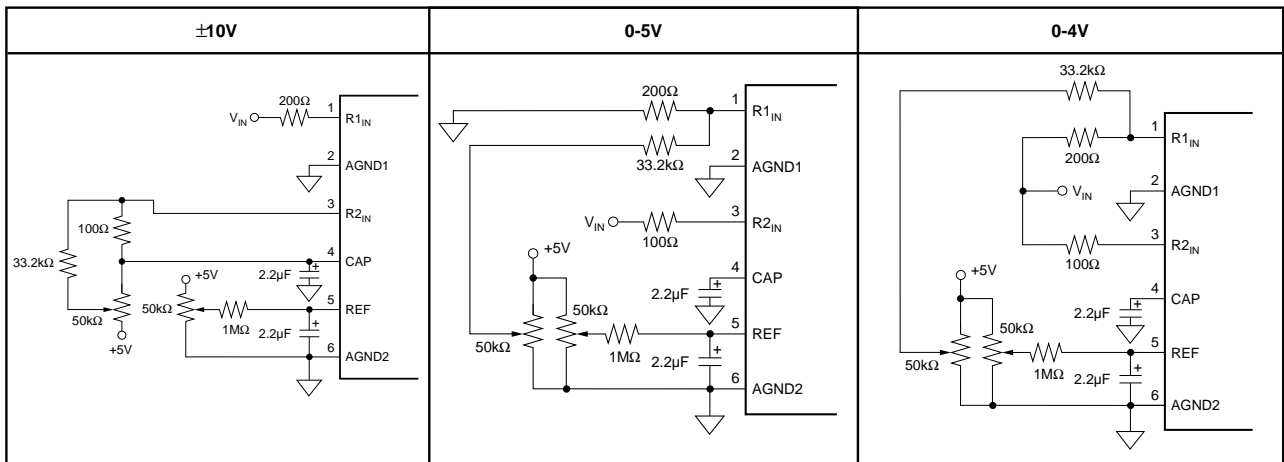
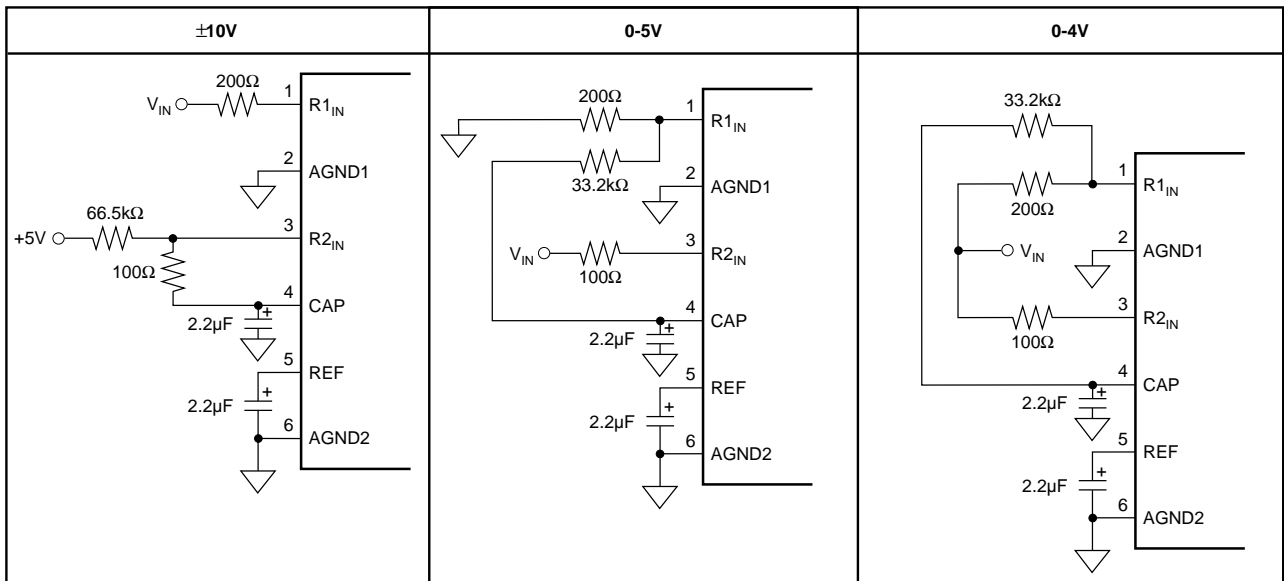
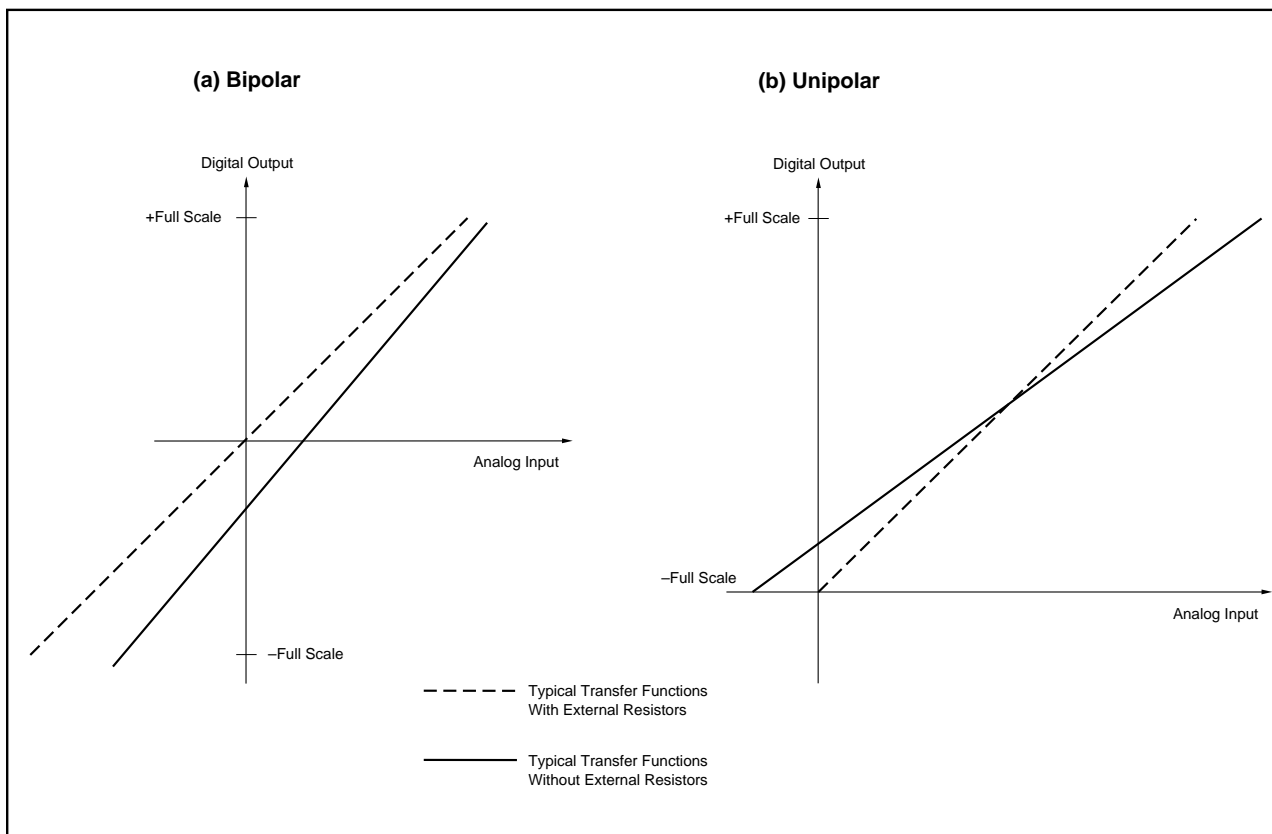

FIGURE 7a. Circuit Diagrams (With Hardware Trim).
FIGURE 7b. Circuit Diagrams (Without Hardware Trim).
FIGURE 8. Typical Transfer Functions With and Without External Resistors.
The ADS7806 offers three input ranges: standard  $\pm 10\text{V}$  and 0-5V, and a 0-4V range for complete, single supply systems. Figures 7a and 7b show the necessary circuit connections for implementing each input range and optional offset and gain adjust circuitry. Offset and full scale error(1) specifications are tested and guaranteed with the fixed resistors shown in Figure 7b. Adjustments for offset and gain are described in the **Calibration** section of this data sheet.
used for each input range (see Figure 8). The input resistor divider network provides inherent overvoltage protection guaranteed to at least  $\pm 25V$ .
To calibrate the offset and gain of the ADS7806 in hardware, install the resistors shown in Figure 7a. Table VII lists the hardware trim ranges relative to the input for each input range.
TABLE VII. Offset and Gain Adjust Ranges for Hardware Calibration (see Figure 7a).
fications for offset and gain, the resistors shown in Figure 7b are necessary. See the **No Calibration** section for more details on the external resistors. Refer to Table VIII for the range of offset and gain errors with and without the external resistors.
See Figure 7b for circuit connections. Note that the actual voltage dropped across the external resistors is at least two orders of magnitude lower than the voltage dropped across the internal resistor divider network. This should be consid-
The external resistors shown in Figure 7b may not be necessary in some applications. These resistors provide compensation for an internal adjustment of the offset and gain which allows calibration with a single supply. Not using the external resistors will result in offset and gain errors in addition to those listed in the electrical specifications section. Offset refers to the equivalent voltage of the digital output when converting with the input grounded. A positive gain error occurs when the equivalent output voltage of the digital output is larger than the analog input. Refer to Table VIII for nominal ranges of gain and offset errors with and without the external resistors. Refer to Figure 8 for typical shifts in the transfer functions which occur when the external resistors are removed.